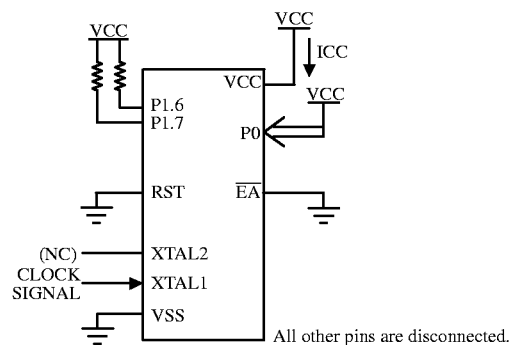

Figure 28 ICC Test Condition, Idle Mode
- Idle ICC is measured with all output pins disconnected; XTAL1 driven with TCLCH, TCHCL = 5ns, VIL = VSS + 0.5V, VIH = VCC - 0.5V; XTAL2 N.C.; Port 0 = VCC; $\overline{\text{EA}}$ = RST = VSS (see Figure 28).